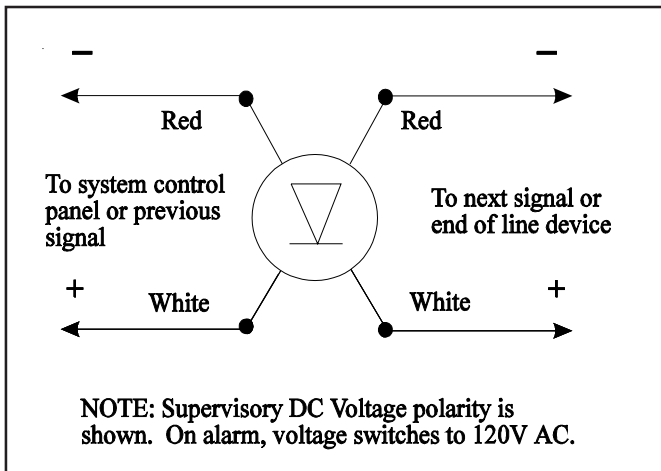

Figure 2. Wiring the 878DEX-N5 AC Horn
3. In the outlet box, connect the installation wiring to the horn's wire leads using wire nuts (Figure 2 or 3). Replace cover on outlet box.